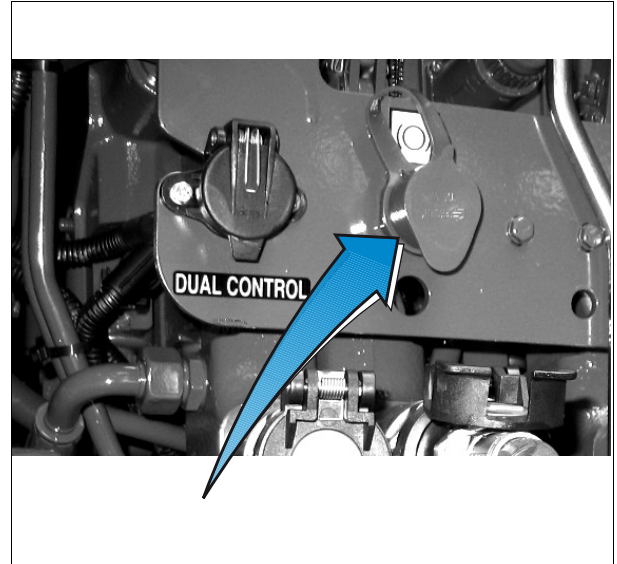

Fig. 2.
2. Connect the trailer hose to the union located at the rear of the tractor fig. 2